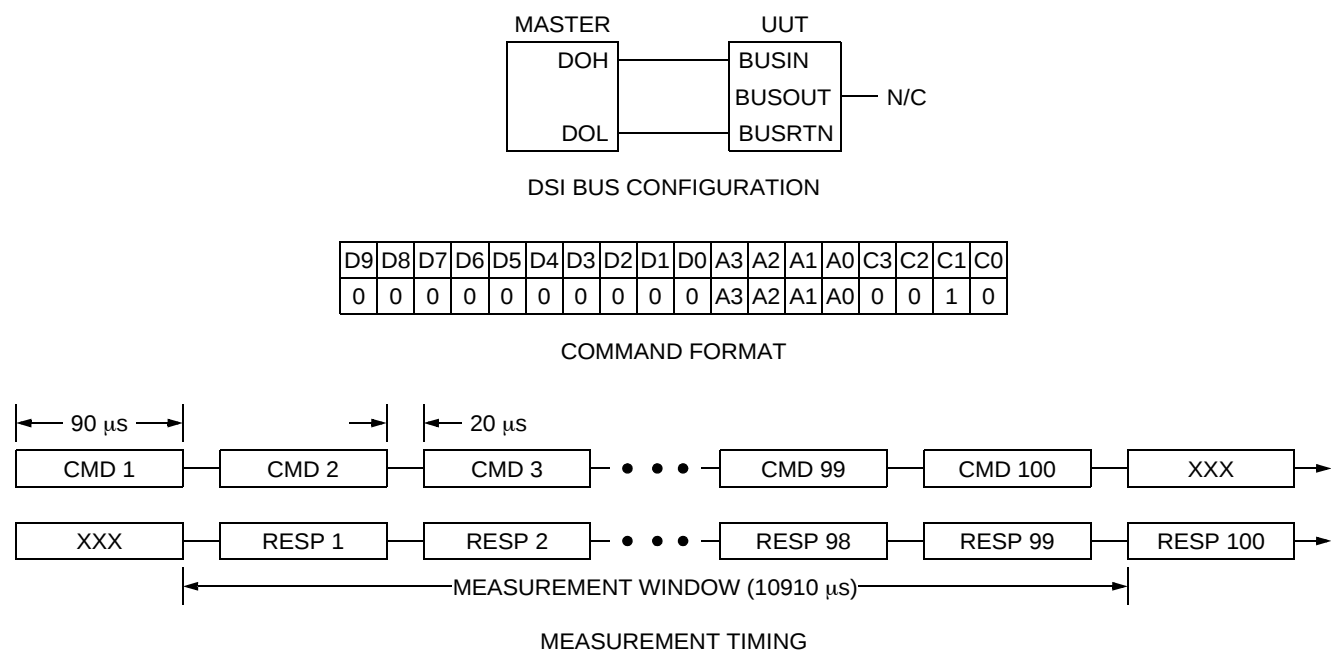

Figure 5-3. Total Noise Measurement Conditions
| 94  | Total Noise (see Figure 5-3)400 Hz, 4-pole filter, 20g rangeRMS, 100 samples                                                            | $\eta_{RMS}$     | —   | —   | 2   | digit | (3) |